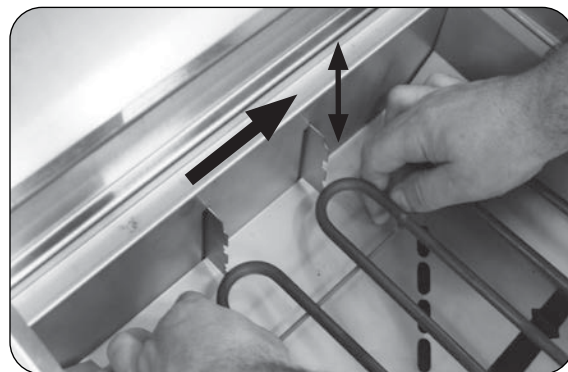

Fig. 21-1 Adjust cooking element
2. Grasp the cool cooking element and apply pressure towards the right of the grill. Once it clears the tab, raise or lower it to the desired height. (See Fig. 21-1.) Be sure it securely rests in position.